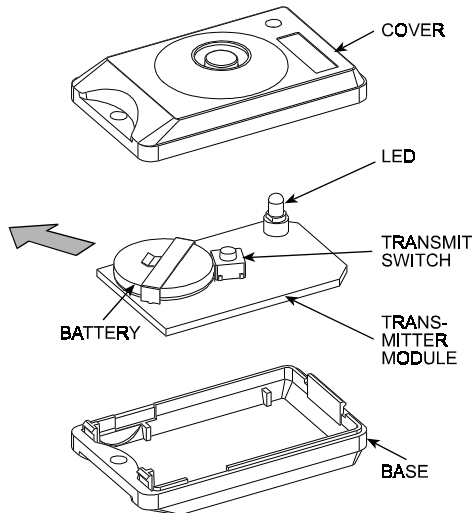

Figure 3. Battery Replacement
B. Slide the old battery from under the clip in the direction shown by the arrow in Figure 3.
D. Briefly press the transmit switch (Fig. 3). The on-board LED should light brightly for 2 seconds.